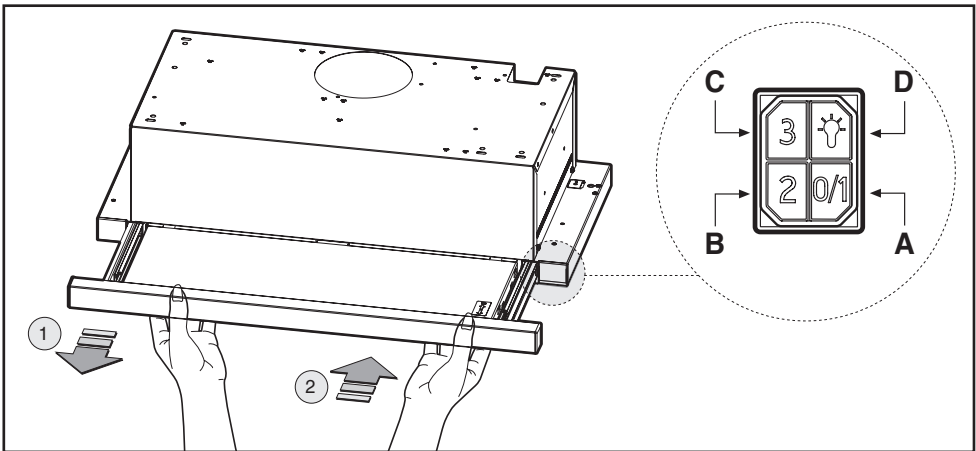

Fig.9.2
• Slider controls (Fig.9.2), the symbols are shown below: